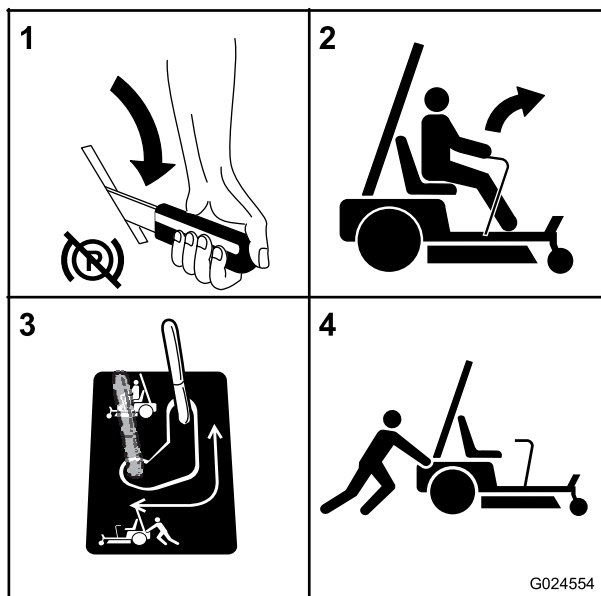

Figure 26
5. Move the bypass levers rearward and then down to lock them in place as shown in Figure 26 to disengage the wheel motors.
Move the bypass to the position for operating the machine (Figure 26) to engage the wheel motors.